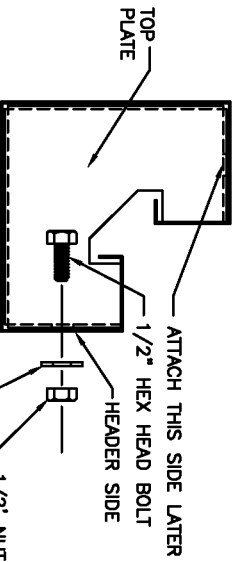

FIGURE 9
ATTACH TOP PLATES TO THE PIERS THAT HAVE HEADERS BOLTED TO THEM USING 1/2x 1 1/4 HEX HEAD BOLTS, NUT AND (2) FLAT WASHERS. BOLT TOP CORNER PLATE WITH (1) BOLT ON THE SAME SIDE AS HEADER IS ATTACHED (SEE FIG. 9). REMAINING FASTENERS AND TOP PLATES WILL BE INSTALLED AT A LATER TIME.